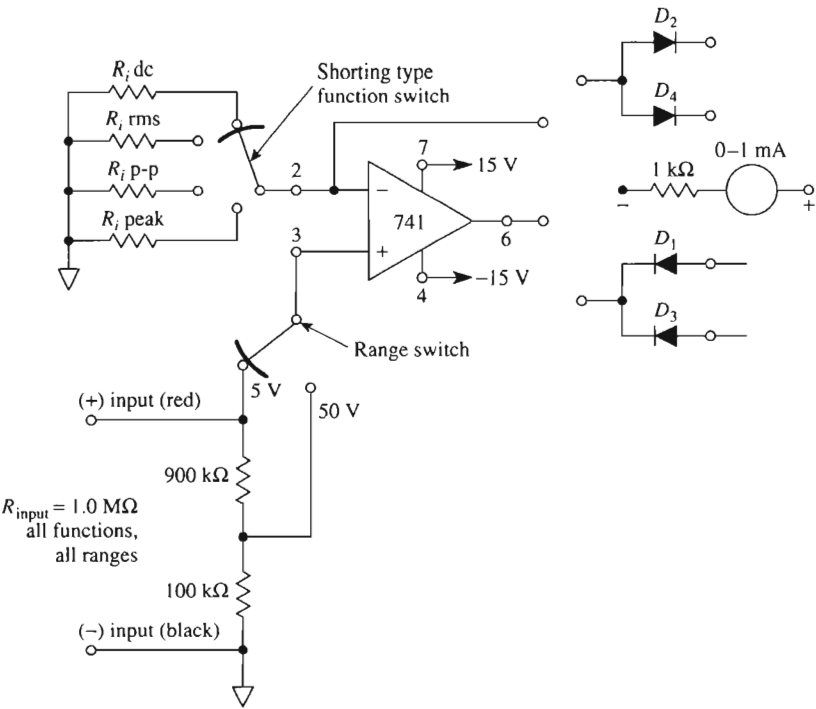

FIGURE P5-3
- 5-3. In Fig. P5-3 complete the schematic wiring between op amp, diodes, and milliammeter. The current through the meter must be steered from right to left.
- 5-4. Calculate a value for R_{idc} in Fig. P5-3 so that the meter reads full scale when $E_i = 5 \text{ V}$ and the range switch is on the 5-V position.
- 5-5. Consider that the range switch is in the 5-V position in Fig. P5-3. Calculate values for the following resistors to give a full-scale meter deflection of 5 V: (a) R_{irms} for $E_i = 5 \text{ V rms}$; (b) $R_i \text{ p-p}$ for $E_i = 5 \text{ V p-p}$; (c) $R_i \text{ peak}$ for $E_i = 5 \text{ V peak}$.